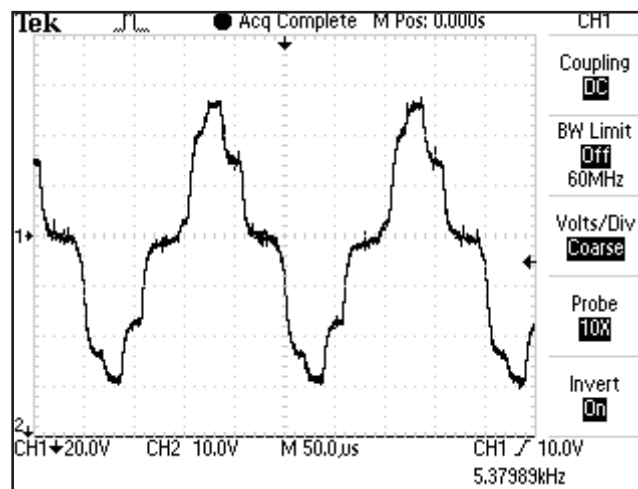

FIGURE 4.4
C. Interferential - Figure 4.4 (Factory Default Setting)